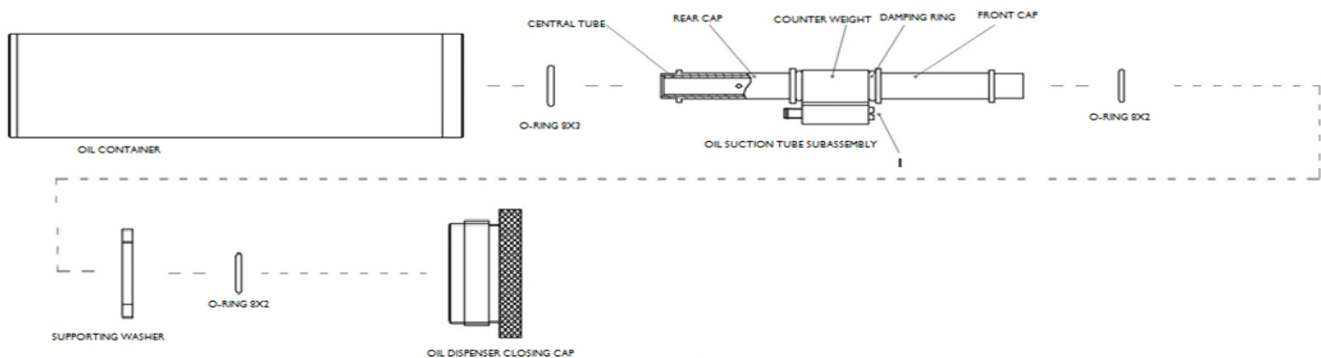

FIG. 9
- In case oil is not sprayed out of the Oil dispenser, the dispenser has to be disassembled. In Fig. 9 the Oil dispenser assembly is presented.
- Remove the Oil dispenser closing cap by unscrewing it. Remove the Oil suction tube subassembly. Clean precisely all the parts of this subassembly with compressed air. Make sure that all air and oil paths are opened. The amount of oil that is sprayed out of the dispenser is controlled with the screw found on the Counter weight (Fig. 9 – 1). Rotating the screw clockwise with the screwdriver reduces the amount of oil and rotating counter-clockwise increases the amount of oil. Make sure that the Oil suction tube subassembly is placed back into the container properly. Make sure that the Central tube is oriented properly.